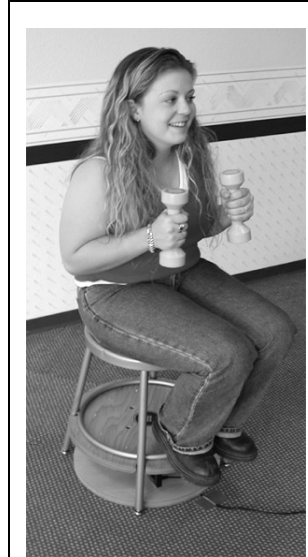

Figure 6
1. Ask a student to sit on the stool of the Discover Rotation Platform with 5 kg masses in each arm (see Figure 6).